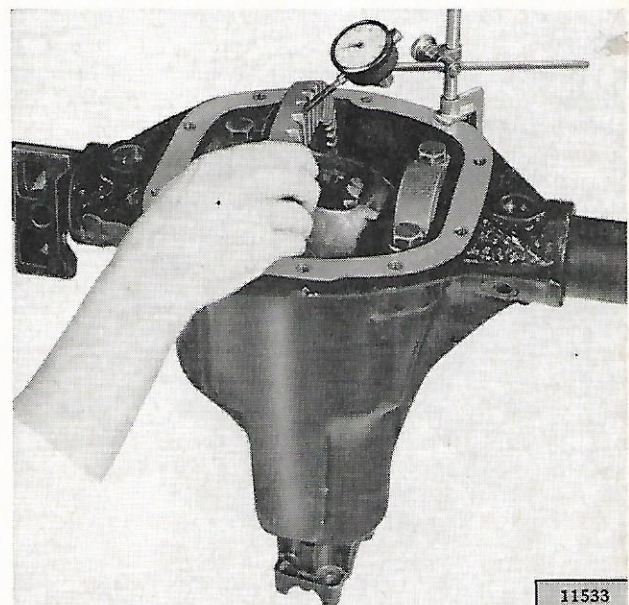

FIG. 11-20—CHECKING RING GEAR BACKLASH
- l. Install dial indicator to check ring gear backlash (Fig. 11-20). Check backlash at two points. Backlash must be held between .005" to .010". If backlash does not fall within specifications, shims should be interchanged between the two differential bearing shim packs until correct backlash is obtained.